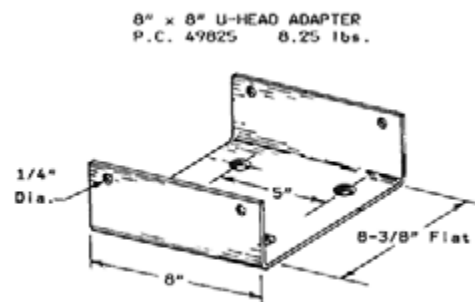

Fig. 17
The U-Head Adapter (Fig. 17) or Aluminum Joist stringer are used with the Meter Screw Jack when the W8x10 stringers are lapped side by side at the shore head. Like the Meter Screw Jack, the adapter has four holes and is attached use two (2) flathead machine screws in diagonal holes. The Steel Beam Clamp secures the stringer to the U-Head.